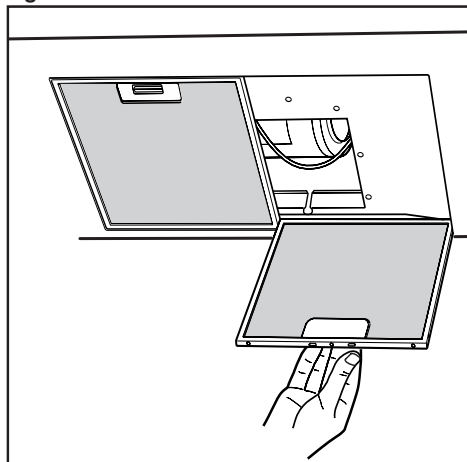

Fig.8
- Before proceeding with the assembly operations, remove the anti-grease filter(s) (Fig.8) so that the unit is easier to handle.